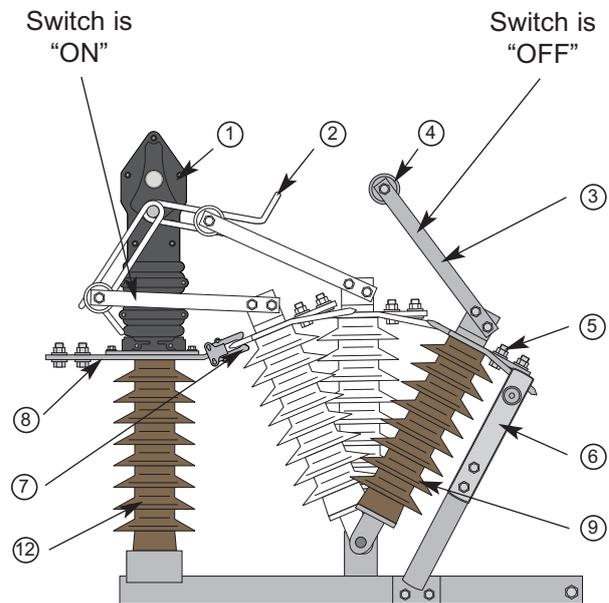

Fig. 18: "On" and "Off" switching operation
- The contact plates (4) of the contact arm (3) must strike centrally in the actuating fork (2) of the arcing chamber (1) (Fig. 18, page 20)